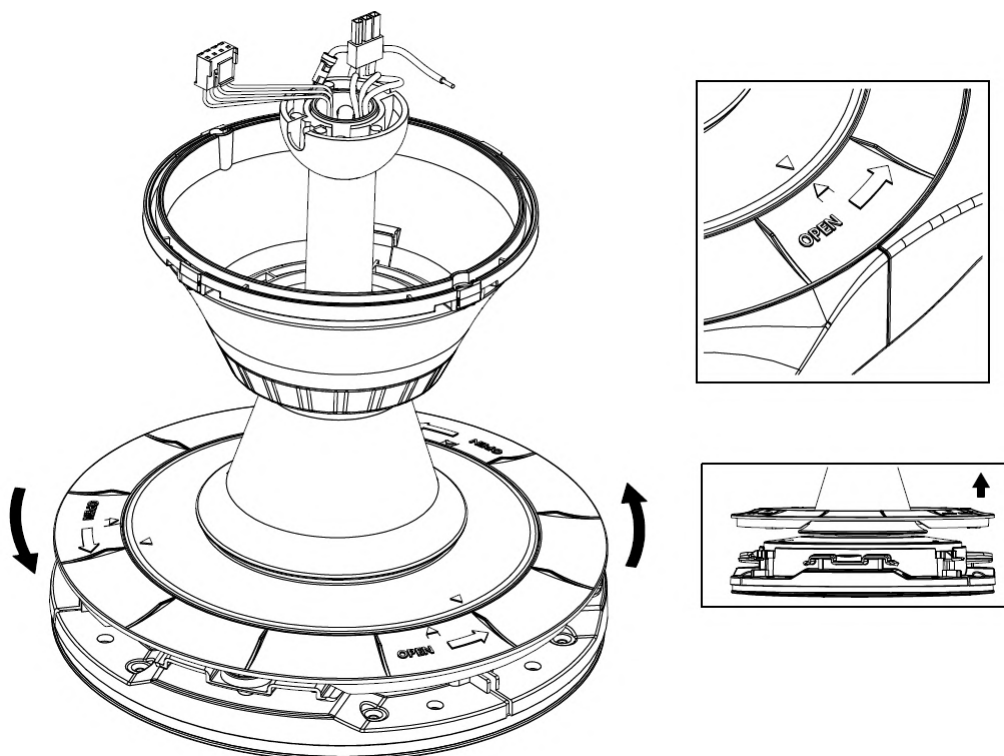

Fig. 4.1
1. Turn the fan host ring cover anti-clockwise to the open position and lift up. (Fig. 4.1)